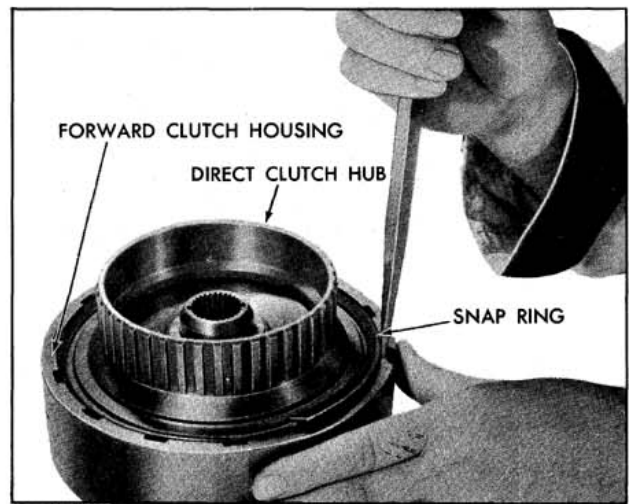

Fig. 6-147 Installing Snap Ring
11. Install the direct clutch hub and retaining snap ring. (Fig. 6-147)